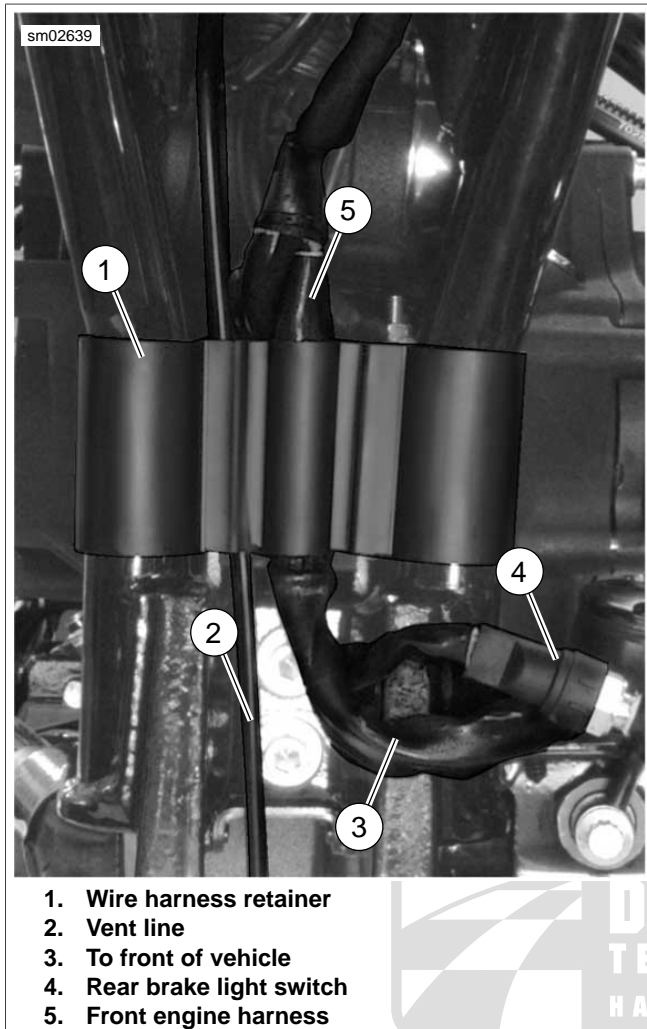
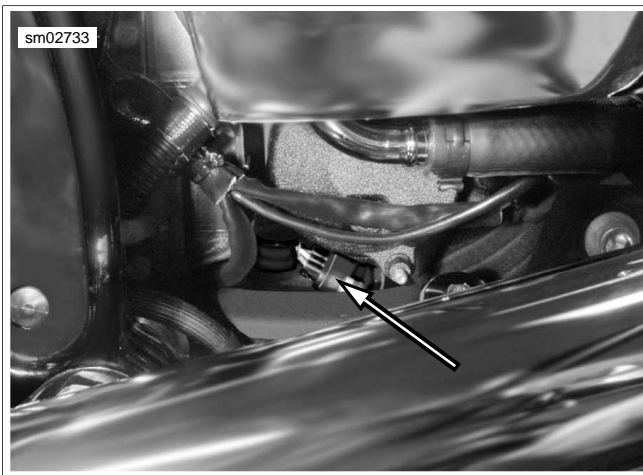

Figure 7-79. Main Wire Harness (Typical)
Figure 7-80. Vehicle Speed Sensor
23. See Figure 7-79. Slide wire harness retainer up frame tubes. Remove harness retainer from frame and harness.
5. See Figure 7-79. Route engine harness (which contains voltage regulator connector [77], crank position sensor connector [79], stator connector [46] and front oxygen sensor [138] wiring to front of vehicle as shown. Install the oxygen sensor and crank position sensor connectors in front electrical caddy (see 7.17 CRANK POSITION SENSOR \(CKP\)). Connect the engine harness and stator connectors to the voltage regulator.
6. Route rear brake switch wiring (4) as shown and connect to rear brake switch.
11. Install wire harness retainer (1).
- See Figure 7-79. To prevent contact with rear fork, front engine harness (5) and rear brake switch wiring must be secured in wire harness retainer (1).
- If equipped with jiffy stand sensor (HDI models only), route the sensor harness up along the vent line (2) and secure in the same retainer cavity as the vent line.
14. See Figure 7-80. Connect vehicle speed sensor connector [65].